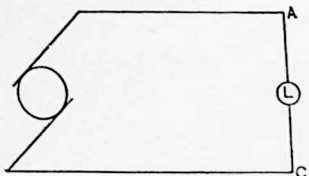

FIG. 9. Generator supplying lamp with current.
**Problem 16.** In Fig. 9 lamp *L* has a resistance of 60 ohms. What voltage is needed across *AC* to force 2 amperes through the lamp?